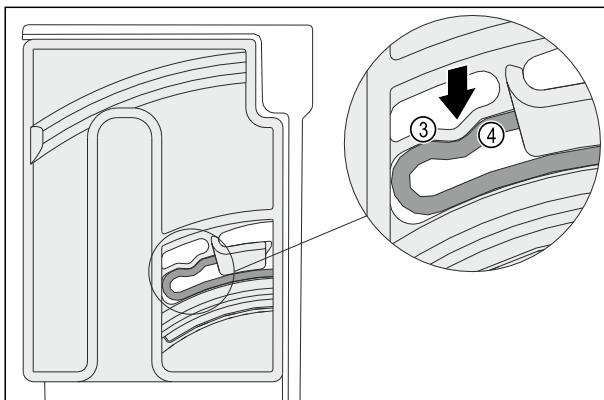

Fig. 138
- The elastic element Fig. 138 (3) of the turning unit audibly engages in the round shape of the rib Fig. 138 (4).